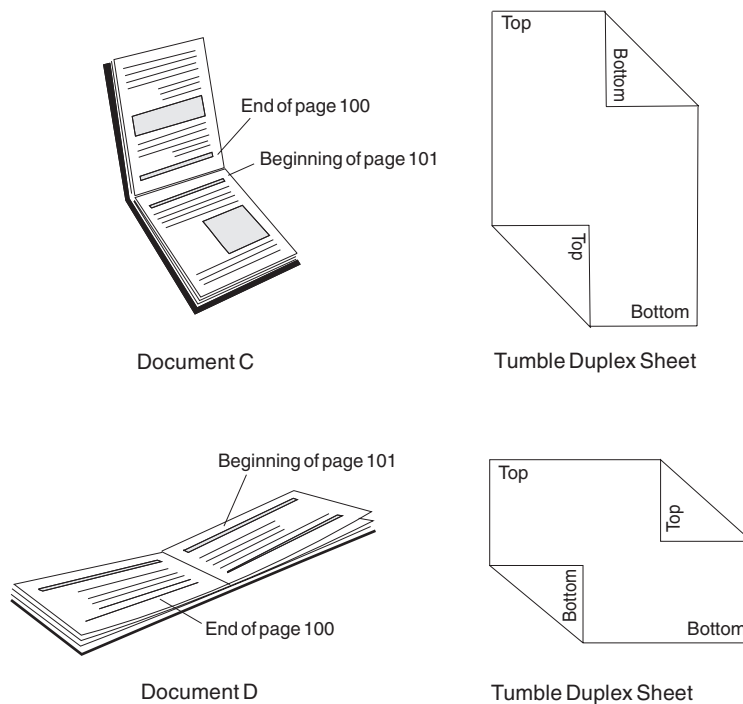

Figure 23. Duplex Documents C and D Specified as Tumble Duplex
- If the sheets are to be bound on the short edge of the paper, as Document C and Document D are in Figure 23 on page 55, specify *tumble duplex*.
Figure 23 shows Document C and Document D printed with tumble duplex. Notice that the pages are printed in the *portrait position* for Document C and in the *landscape position* for Document D.